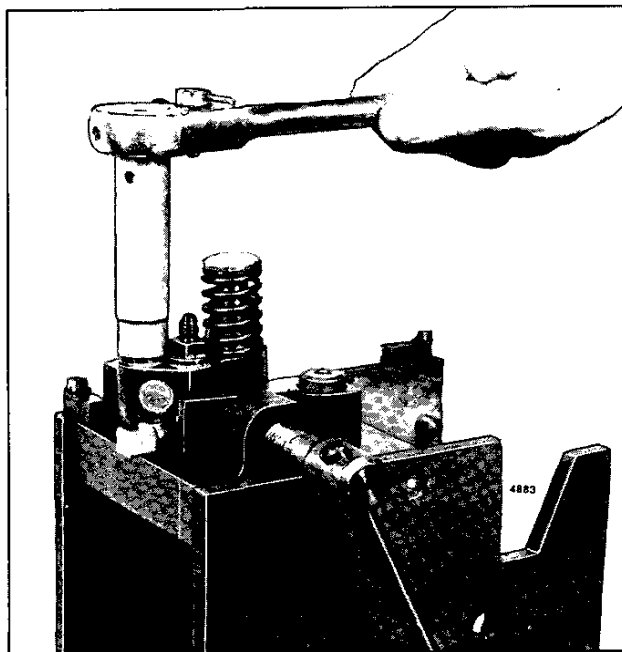

Fig. 9 – Removing Filter Cap
1. Support the injector upright in injector holding fixture J 22396 (Fig. 9) and remove the filter caps, gaskets and filters.